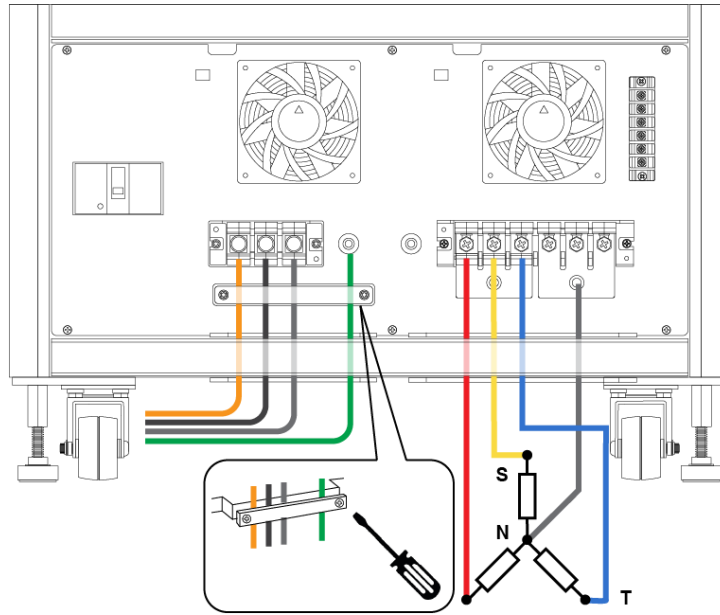

Figure 3-1 Three-Phase Input Power Wiring and Cable Securing Method
Table 3-1 lists the standard input power cable specifications, rated at 600V and 105°C. The selected cable must have a voltage and current rating equal to or greater than the rated current of the regenerative power system. The input terminal block is located on the lower left side of the rear panel. Please follow the steps below as shown in Figure 3-1:
3. Route the three-phase input power cable through the bottom hole of the rear panel and the safety clamp, then connect it to the INPUT terminals of the regenerative power system and tighten the screws, as shown in Figure 3-1.